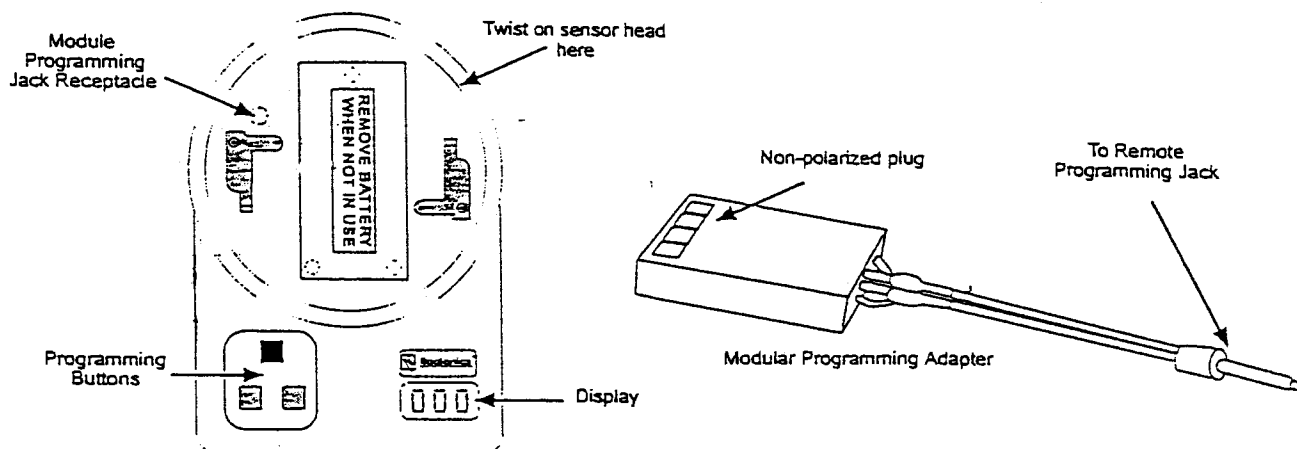

Figure 1: D5070 Analog Device Programmer
- The following steps explain how to set an address using the D5070 Analog Device Programmer. See Figures 1 and 2 for more details.